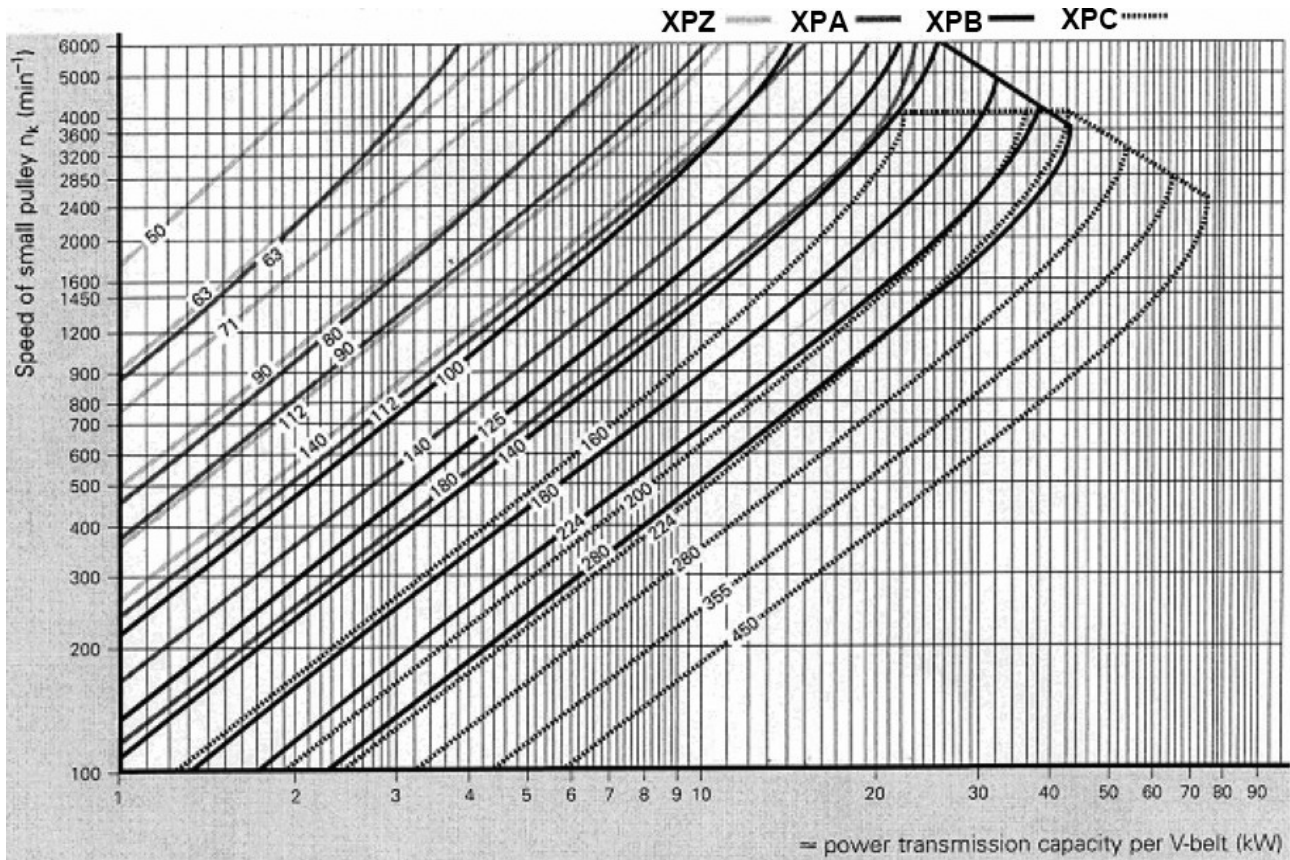
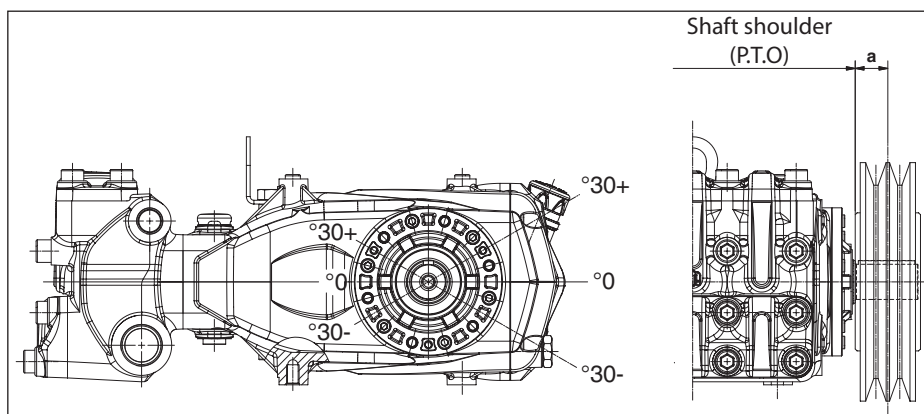

Fig. 7
Fig. 10
For these pump models, we recommend use of 3 XPB belts (16.5x13 serrated). Use an XPC profile only for long durations. Both the characteristics and transmissible power of each belt can be verified in the diagram in Fig. 7, in relation to the number of rpm normally declared by the manufacturer. Minimum duct pulley diameter (on pump shaft): ≥ 160 mm. The radial load on the shaft must not exceed 4500 N (value necessary for Layout definition). The transmission is considered adequate if the load is applied to a maximum distance **a = 50 mm** from the shaft shoulder (P.T.O) as shown in Fig. 10.
- b) Use high performance belts – for example **XPB** instead of **SPB** – as a lower quantity of belts for the same transmitted power may be necessary and a consequent shorter resulting distance compared to the shaft shoulder (P.T.O) “a” of Fig. 10.
- e) Follow the direction of the belt pull as shown in Fig. 10 for other needs, contact our **Technical** or **Customer Service Department**.